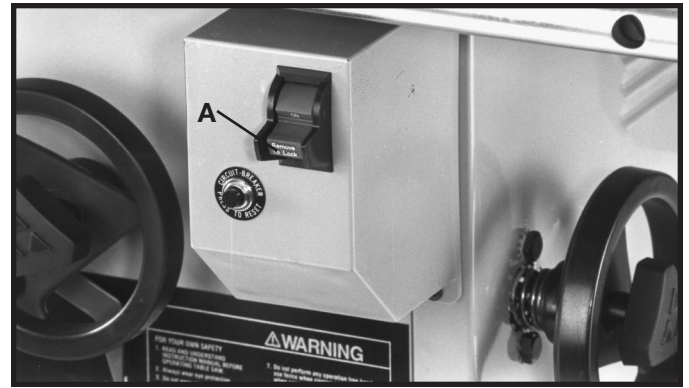

Fig. 39
The switch (A) is located on the front panel of the saw cabinet, as shown in Fig. 39. To turn the saw “ON”, move the switch up to the “ON” position. To turn the saw “OFF”, move the switch down to the “OFF” position.